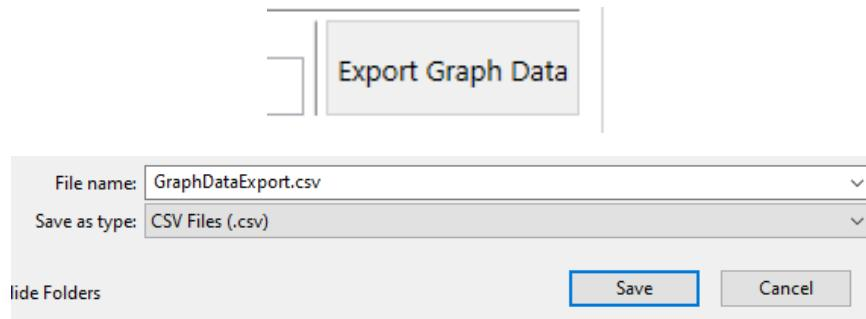

Figure 158. Save Screen Displayed Data
4. Click on the ‘Export Graph Data’ button (see Figure 158).